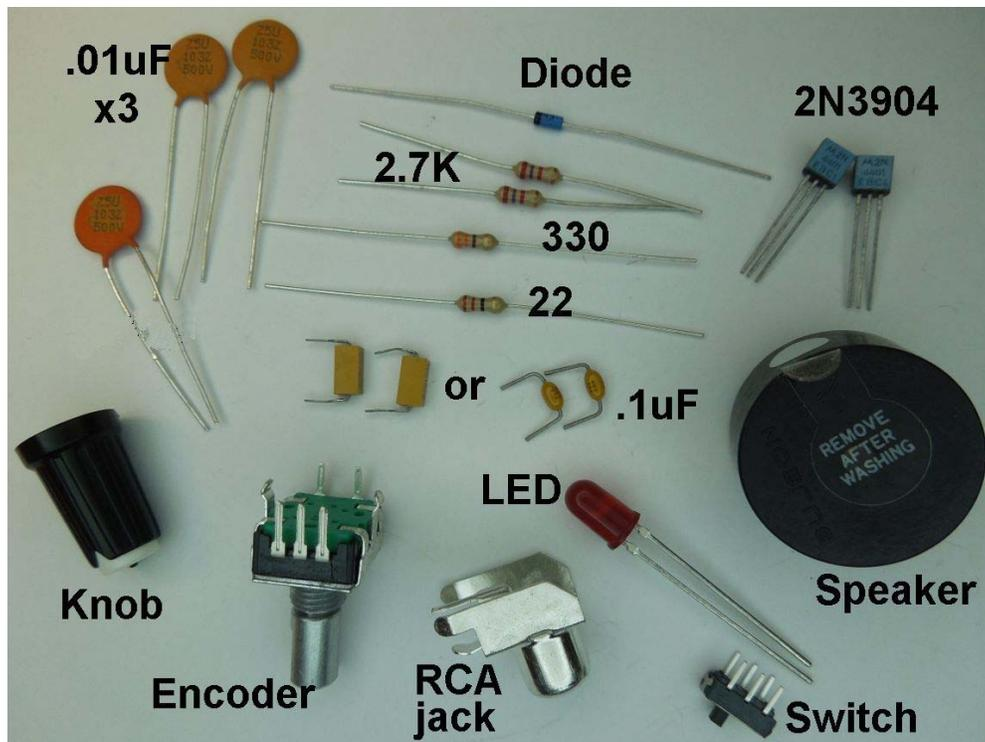

Figure 3 - MTB component identification
- \_\_\_ Install and solder two .1uF and three .01 uF capacitors. Use figure 3 as a guide.
- \_\_\_ Install diode D1 observing black polarity stripe. Use figure 3 as a guide.